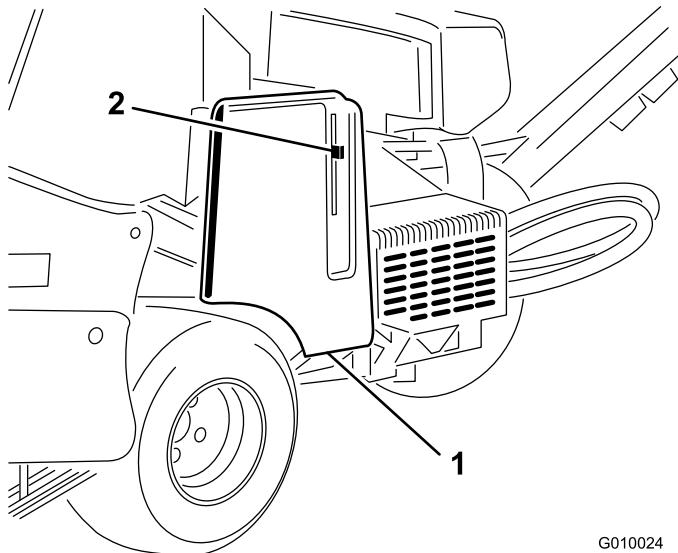
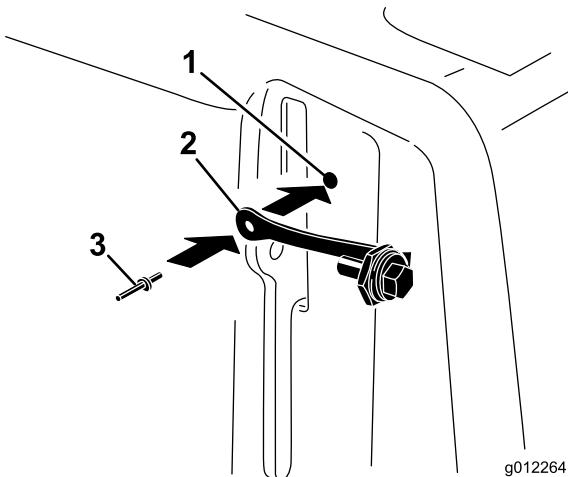

Figure 8
Figure 9
- Locate the hole in the belt cover next to the latch lever (Figure 8 and Figure 9).
2. Using the hole in the belt cover, install the lanyard assembly with a pop rivet (Figure 9).